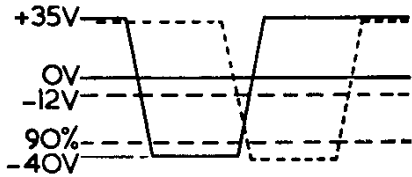
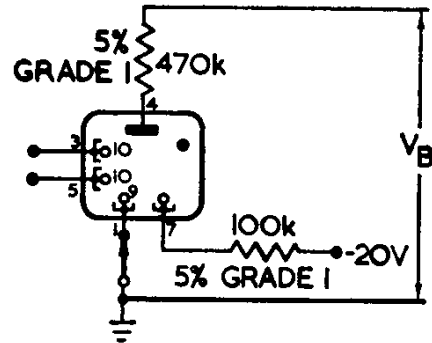
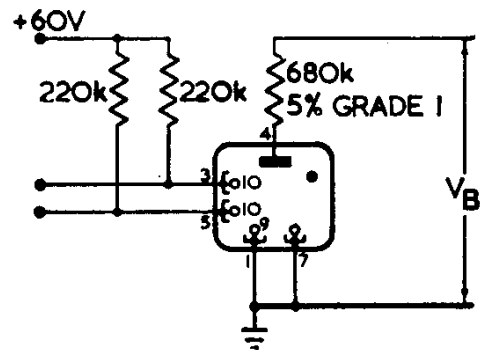

Fig. 1
Fig. 2
Fig. 4
2. The tube shall scale without error the first applications of test signals (illustrated in Fig. 1). Test signals are to be applied for at least 1/10th second. The test circuit of Fig. 2 is applicable.
5. The tubes selected for this test are to be run in the circuit shown in Fig. 4. One application of the pulses shown in Fig. 1 is to be made every 85 ± 5 hours. The tube is to receive 20 such pulses and then be removed. A tube which fails to step on the application of the test pulses shall be rejected. The normal guide bias is to be +60 V which will be reduced to +35 V immediately prior to the application of pulses.